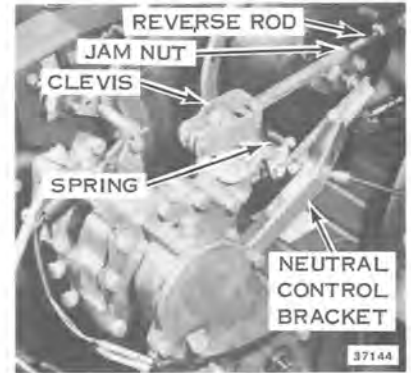

Figure 10-8
- a. Remove two screws securing neutral control bracket to chain case. Remove bracket. See Figure 10-8.
- d. Remove springs on reverse shift. See Figure 10-8.
- e. Remove clevis nut and bolt. See Figure 10-8.
- f. Loosen reverse rod adjustment jam nut. See Figure 10-8.